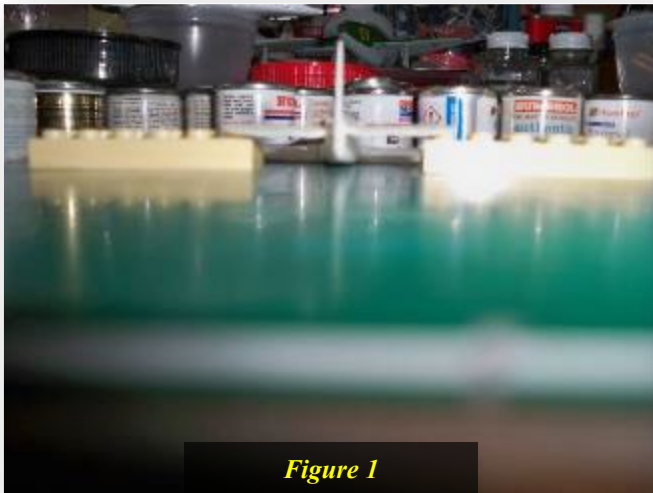

Figure 1
1. (Figures 1 and 2) Lego blocks make handy tools for maintaining alignments while glue cures. And your hobby knife can sometimes be used as a weight to hold things down while alignment is going on!